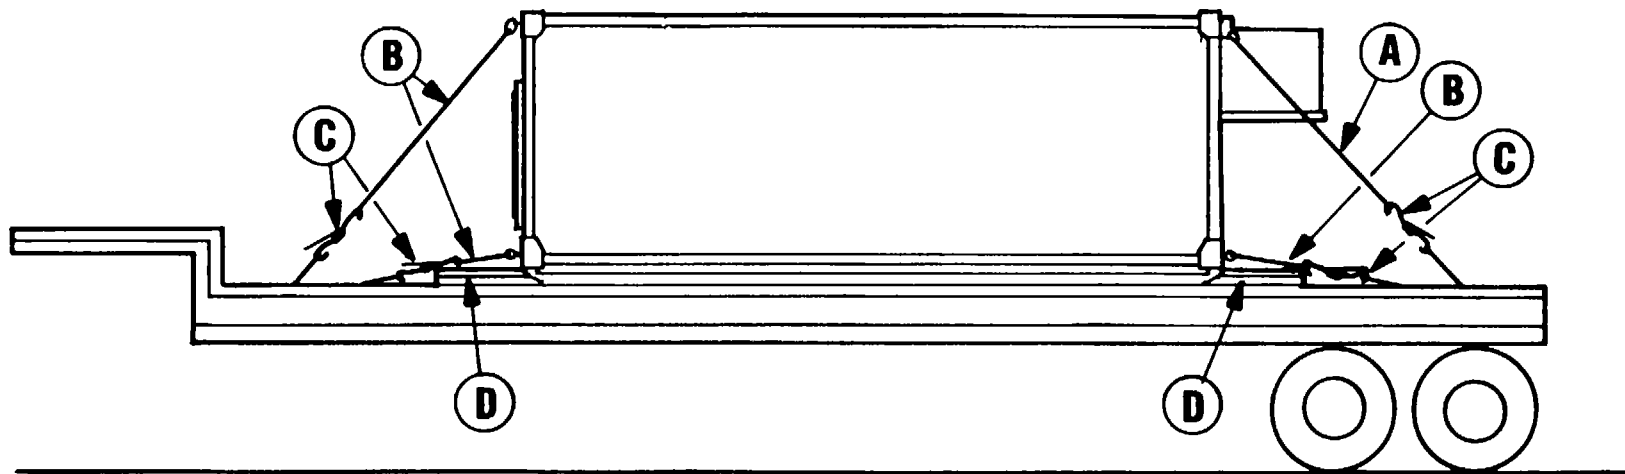
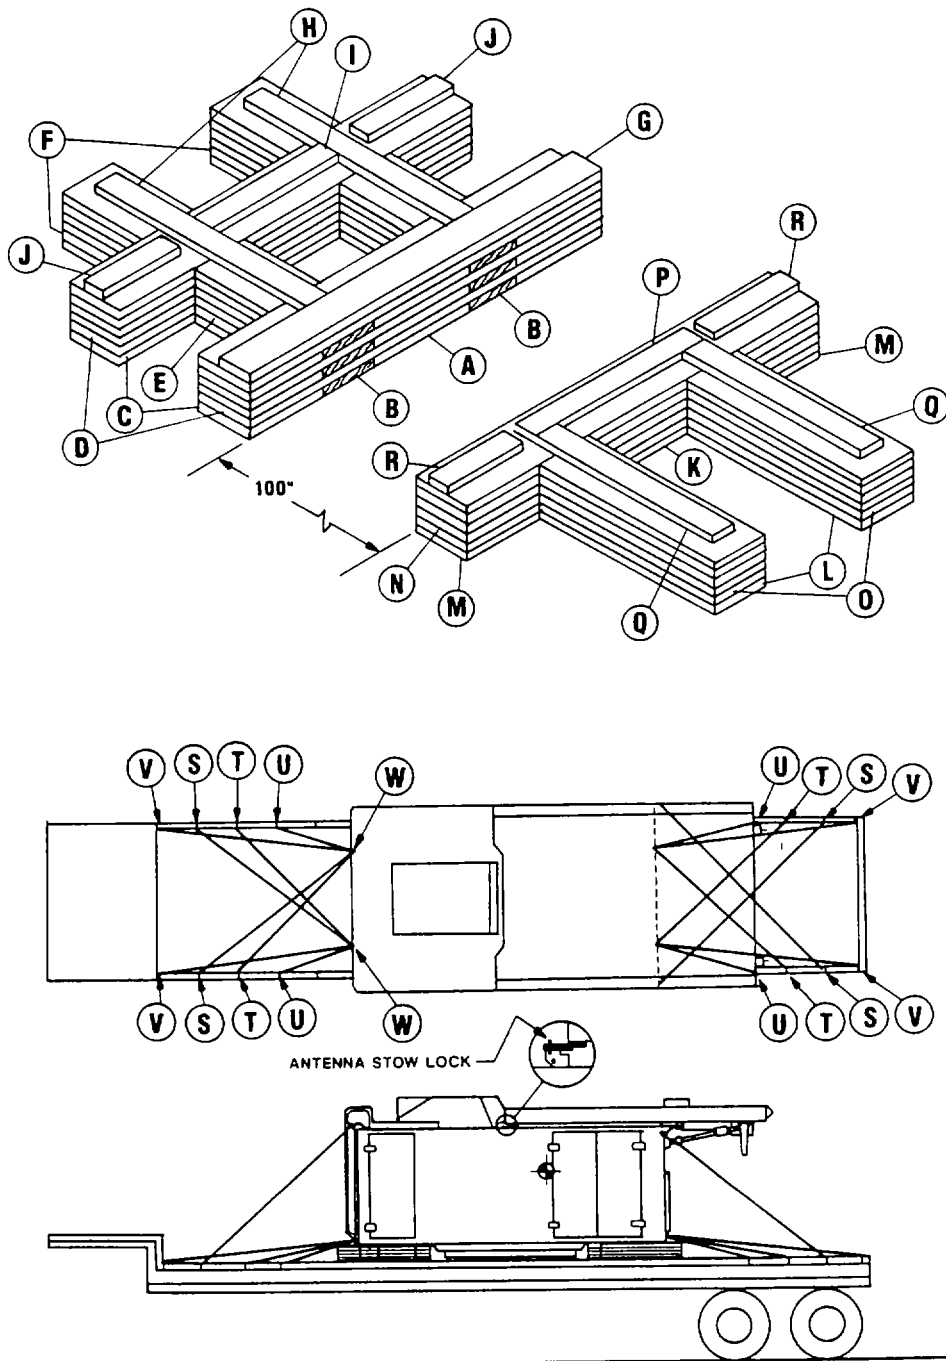

Figure 5-9. Blocking and tiedown of the PATRIOT shelter-mounted ECS, ICC, MC (Con), or CRG on an M269A1 or M270A1
Figure 5-10. Blocking and tiedown of the RS on an M269A1 or M270A1 semitrailer.
e. **PATRIOT Shelter-Mounted Components.** PATRIOT shelter-mounted components may be transported on a number of commercial and military semitrailers of adequate length and weight capacity, such as the M269A1 or M270A1-series semitrailers. Semitrailer load bed heights may vary from as high as 60 inches to as low as 26 inches and restrictions may vary according to the semitrailer used. For example, when the RS is loaded on the M127 semitrailer, the overall height will be 161 inches, within the unrestricted CONUS legal height of 162 inches. The width of the loaded RS is 113 inches, and will require width permits for all moves. Typical semitrailer loading of PATRIOT shelter-mounted items, except the RS, is shown in figure 5-9. Bill and application of materials for blocking and tiedown are shown in tables 5-9 and 5-10, respectively. The RS with shoring assemblies detailed and loaded on a typical semitrailer is shown in figure 5-10. Stow lock antenna as shown in the figure. Bill and application of materials for blocking and tiedown are shown in tables 5-11 and 5-12, respectively. Shelters and the RS are lifted to their tiedown position as described in paragraph 6-4b(3).
Table 5-9. Bill of Materials for Blocking and Tiedown of the PATRIOT Shelter-Mounted Items, Except RS, on Semitrailers (Fig 5-9)-Continued
Table 5-10. Application of Materials for Blocking and Tiedown of PATRIOT Shelter-Mounted Items, Except RS, on Semitrailers (Fig 5-9)
Table 5-9. Bill of Materials for Blocking and Tiedown of the PATRIOT Shelter-Mounted Items, Except RS, on Semitrailers (Fig 5-9)
Table 5-11. Bill of Materials for Blocking and Tiedown of the PATRIOT RS on Semitrailers (Fig 5-10)
Table 5-12. Application of Materials for Blocking and Tiedown of the PATRIOT RS on Semitrailers (Fig 5-10)-Continued
Table 5-12. Application of Materials for Blocking and Tiedown of the PATRIOT RS on Semitrailers (Fig 5-10)